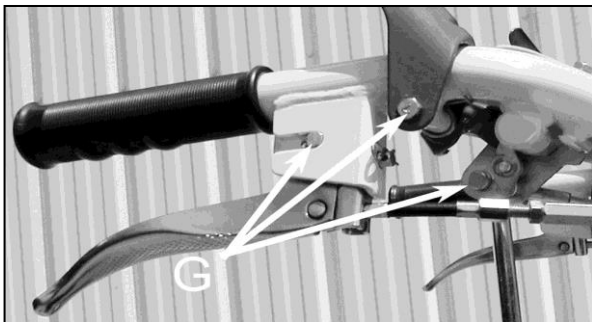

Figure 15
- Grease the front wheel axle(1 Figure 15) with grease NLGI N°2.